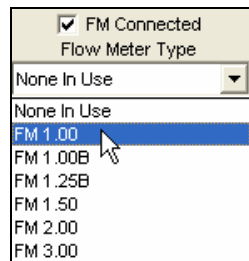

Figure 16.3.7A
5. Use the drop down list to choose the type of flow meter that you are using (Figure 16.3.7A).